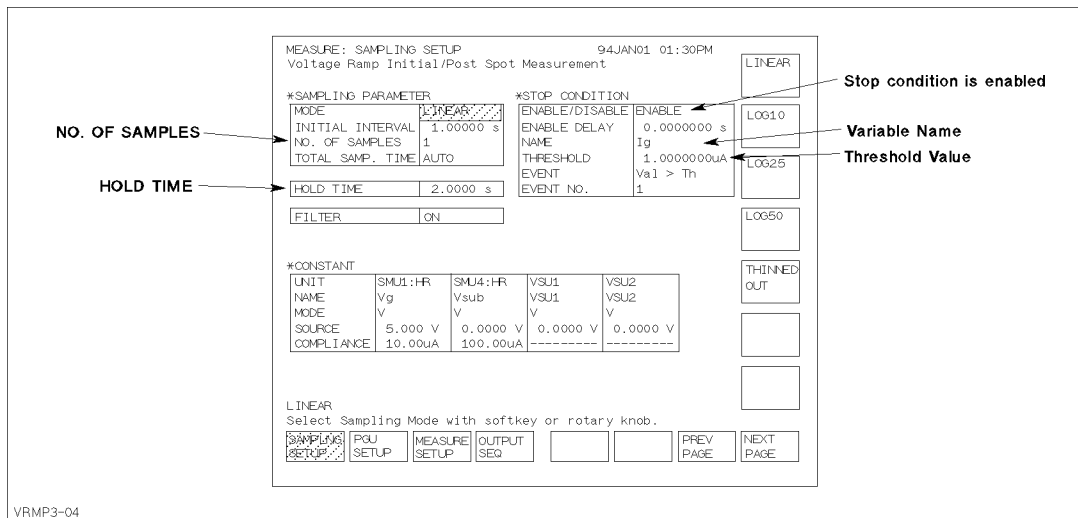

Figure 3-2. MEASURE: SAMPLING SETUP Page for Initial Test
- On MEASURE: SAMPLING SETUP page (see Figure 3-2)